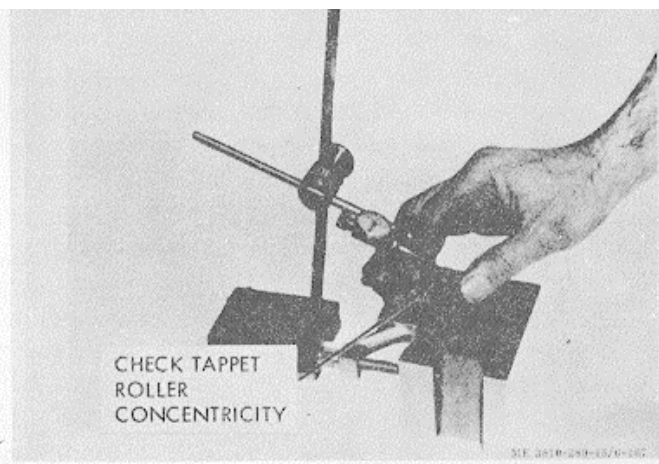

Figure 3-161. Tappet roller concentricity inspection.
(4) Stand tappet assembly on surface plate with roller up. Secure tappet in V-block with clamp.
(5) Using an indicator calibrated in tenths of a thousandth in. or (mm) check concentricity by rotating roller, figure 3-161. Move indicator stand slightly and recheck. Refer to table 2-2 for dimensions.